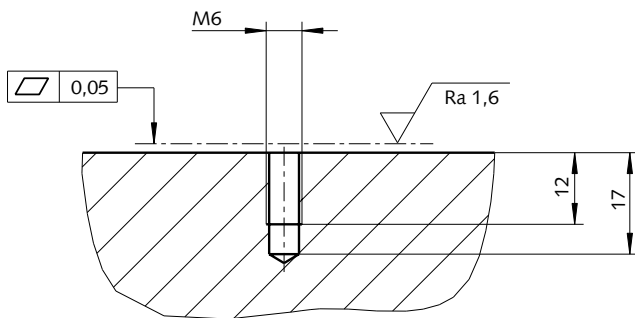

Fig. 3: Preparing the mounting surface
- Machine the surface at the measuring point (N7; Ra 1,6 microns) and tap the M6 female thread (see Figure 3).